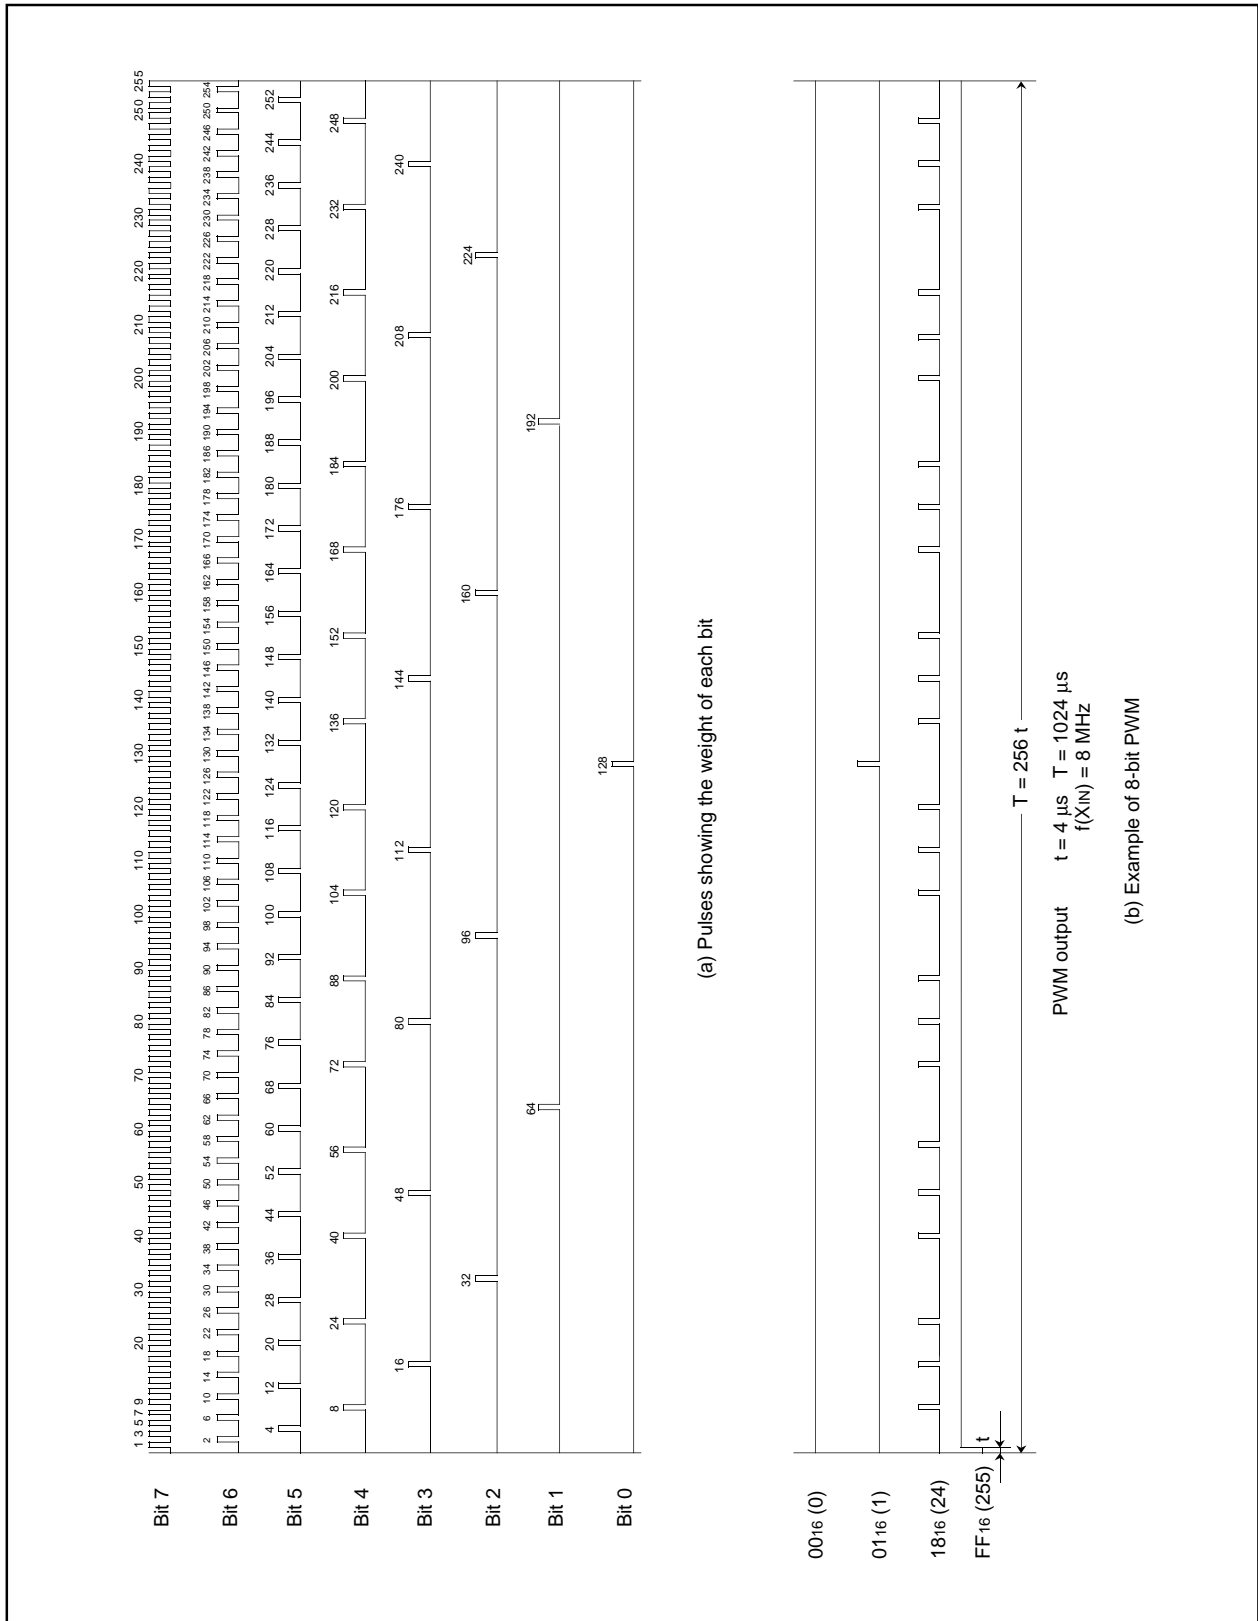

Fig. 26. 8-bit PWM timing
Figure 26 shows the 8-bit PWM timing. One cycle (T) is composed of 256 ( $2^8$ ) segments. The 8 kinds of pulses relative to the weight of each bit (bits 0 to 7) are output inside the circuit during 1 cycle. Refer to Figure 26 (a). The 8-bit PWM outputs waveform performed a OR operation of pulses corresponding to the contents of bits 0 to 7 of the 8-bit PWM register. Several examples are shown in Figure 26 (b). 256 kinds of output ("H" level area:  $0/256$  to  $255/256$ ) are selected by changing the contents of the PWM register. A length of entirely "H" output cannot be output, i.e.  $256/256$ .
**(4) Operating of 14-bit PWM**